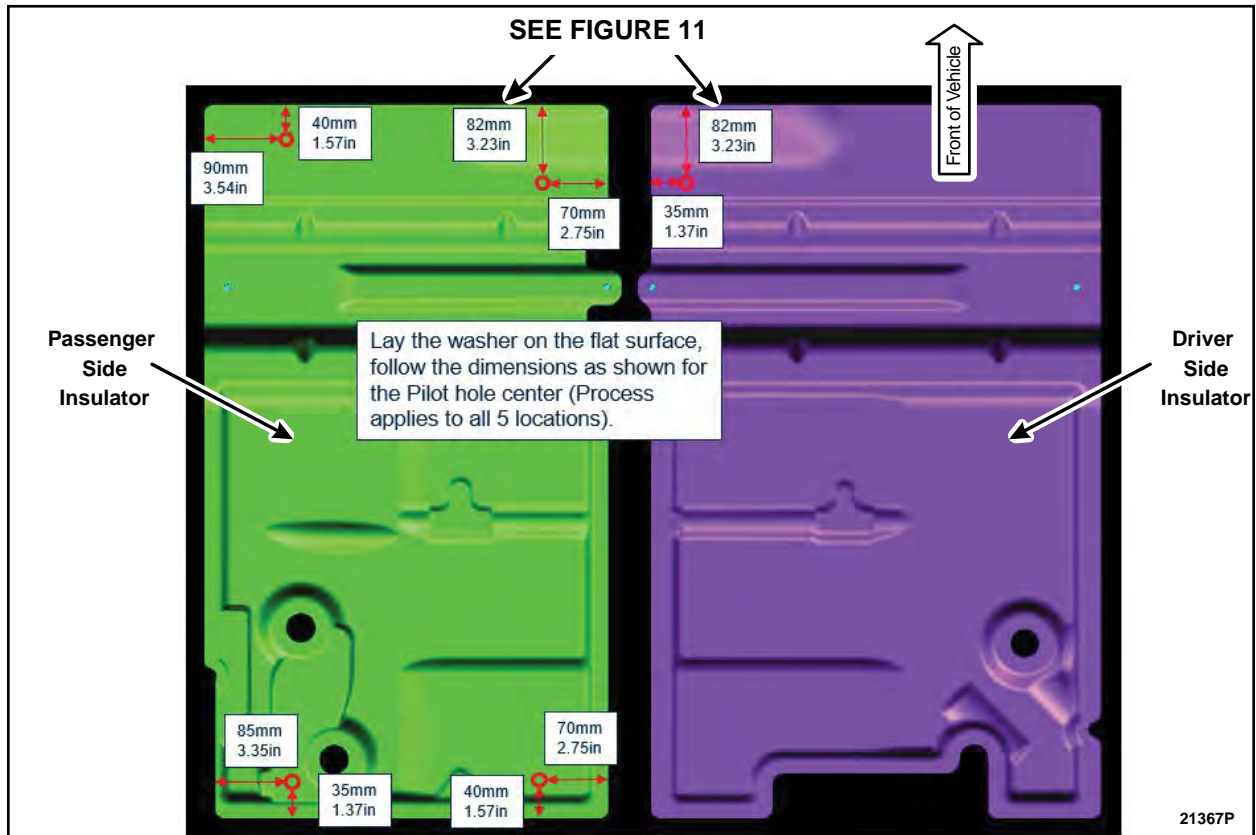

FIGURE 10
- Measure and mark the four locations on the passenger side insulator and mark the one location on the driver side insulator. See Figures 10 and 11.